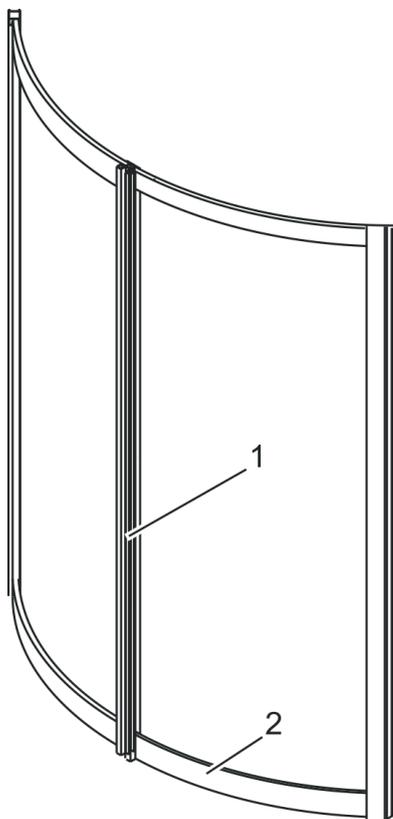

Fig. 40 Drum wall pair
- Press together both drum wall pairs (Fig. 40/2) on the assembled side with a screw clamp (Fig. 40/1) in the center of each.